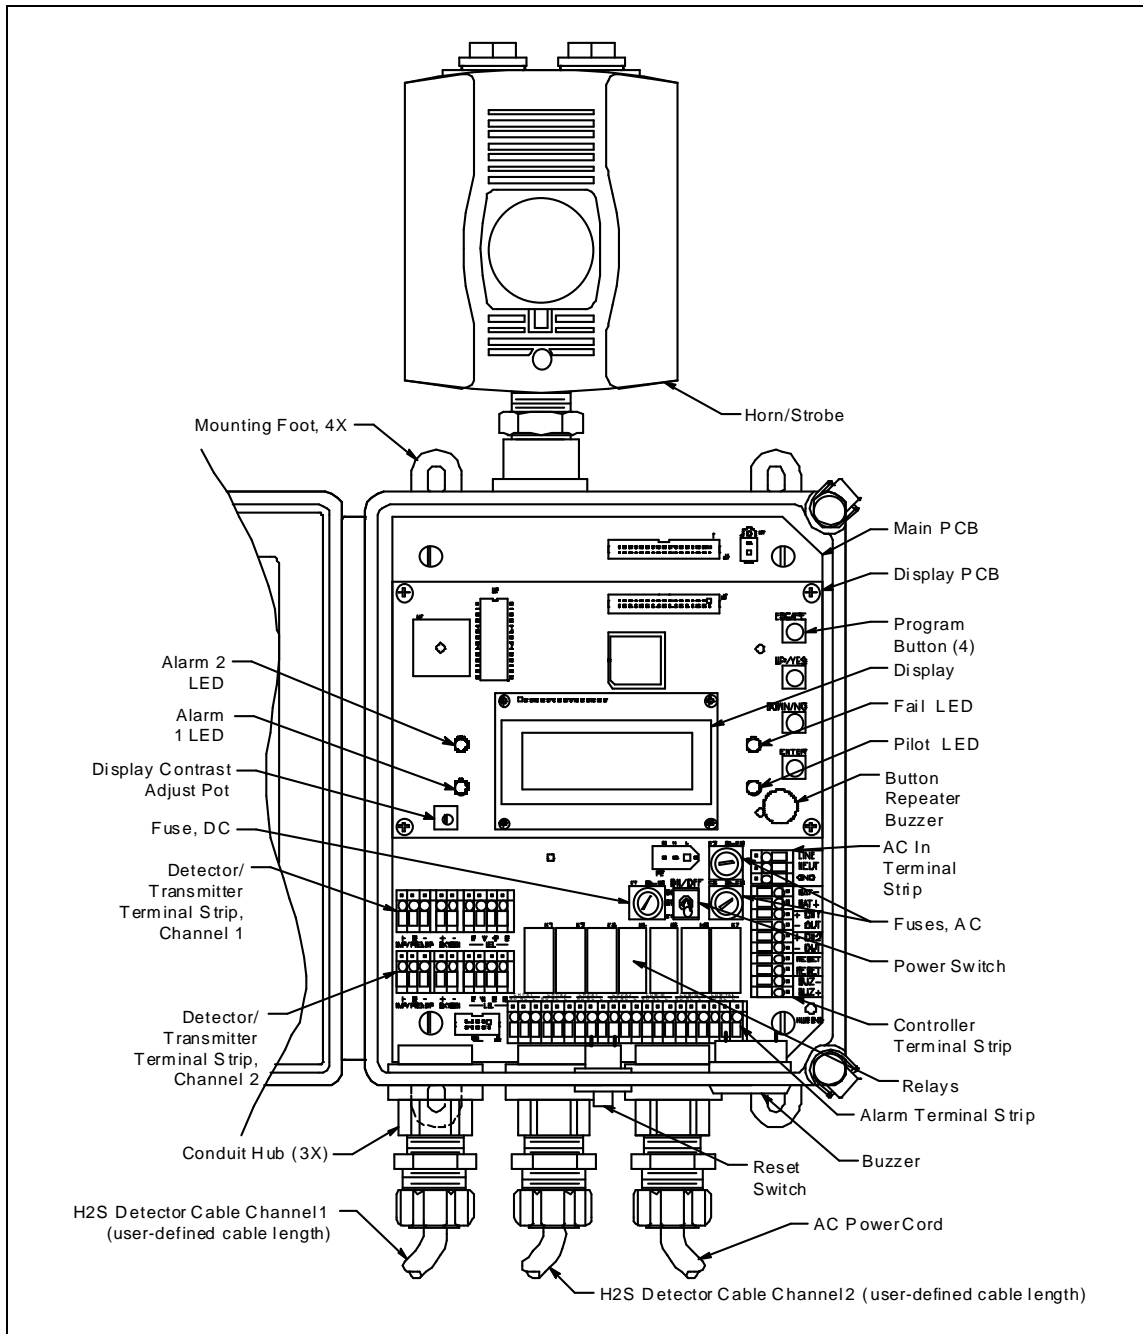

Figure 1. Beacon 200 Component Location
This section describes the internal components of the Beacon 200. See Figure 1 on page 9 for a view of the internal components.
- **Detector/Transmitter Terminal Strips.** Two detector/transmitter terminal strips are located near the bottom left corner of the main circuit board (see Figure 1). These two 9-point terminal strips facilitate wiring connections to the detectors. Only one detector head at a time may be wired per channel. The top terminal strip is for channel 1 and the bottom terminal strip is for channel 2. The H₂S detectors are factory wired to these terminal strips.
- **Alarm Terminal Strip.** The alarm terminal strip is located along the bottom edge of the main circuit board (see Figure 1). This 21-point terminal strips facilitates wiring connections to external alarm devices (horn, strobe, etc.). Terminals are provided for individual channels as well as common alarm relay contacts. The horn/strobe is factory wired to this terminal strip.
- **Controller Terminal Strip.** The 10-point controller terminal strip is near the lower right edge of the main circuit board (see Figure 1). The controller terminal strip facilitates various internal and external wiring connections. Table 3 lists the function of each terminal.
- **AC In Terminal Strip.** The AC In terminal strip is a 3-point terminal strip located above the controller terminal strip (see Figure 1). It facilitates wiring from the AC power source. The 8 foot AC power cord is factory wired to this terminal strip. Table 4 lists the function of each terminal.
- **Channel relays.** The four channel relays are above the alarm terminal strip (see Figure 1). These relays are dedicated to specific channels and alarm levels.
- **Common relays.** The three common relays, alarm 1, alarm 2, and fail, are to the left of the controller terminal strip (see Figure 1). These relays are common for both channels.
The power switch is located above the relays and to the left of the DC fuses (see Figure 1). The power switch turns the incoming AC power source on and off at the Beacon 200. When the switch is up, the power switch is on.